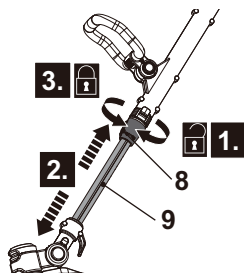

Fig. 6
1. Loosen the locking sleeve (8) in clockwise (Fig. 6, step 1).
2. Pull the lower pole (9) out or push it together to adjust the desired length (Fig. 6, step 2).
3. Tighten the locking sleeve (8) in anticlockwise (Fig. 6, step 3).